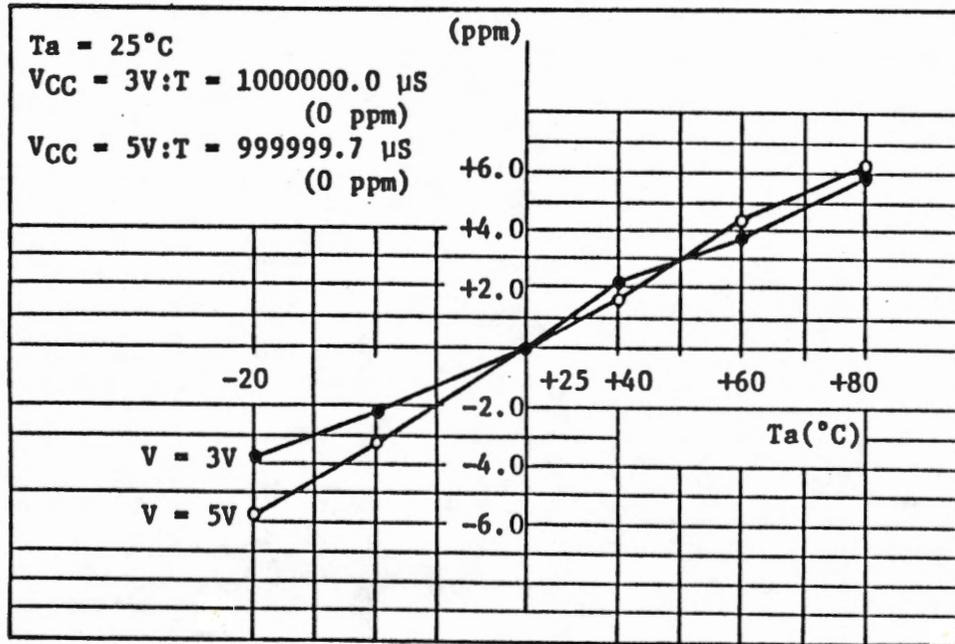

FIGURE 2
32.768kHz OSCILLATOR (pins 16 and 17): An internal inverting amplifier with feedback resistor, R_{FB} , is connected with a crystal and two capacitors as shown in Figure 6 to form a stable, accurate oscillator — which serves as the precision time base of the circuit. Capacitors C1 and C2 in series provide the parallel load capacitance required for precise tuning of the quartz crystal. Typical oscillator performance as a function of ambient temperature and supply voltage is shown in Figures 2 and 3 respectively.